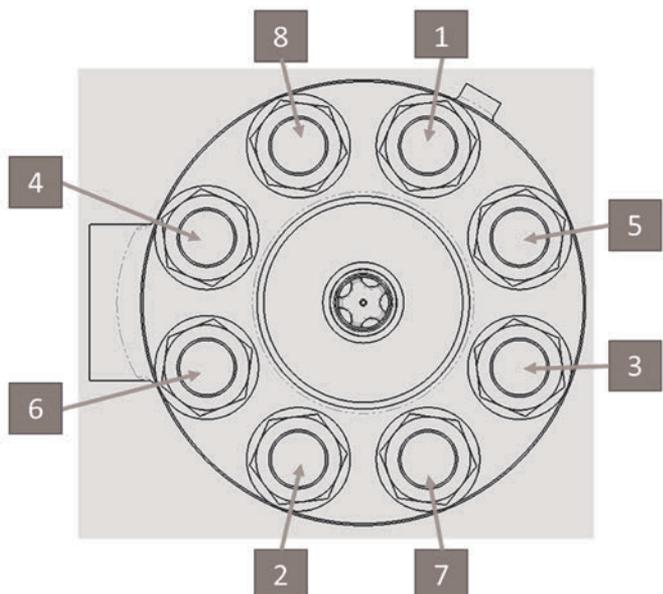

Figure 1 - Torque Sequence Single Bolting Circle 8 Bolts
1. Tighten the Body Nuts (B014) in the sequence indicated by the Figure 1 or 2 or 3 based on quantity, and torque them in successive, uniform, and progressive levels using a calibrated torque wrench. During torquing, ensure that the Lower Flange (B010) face stays parallel to the Valve Body (B001) face. Torque to the maximum values in Table 1 for ASME Class 2500 or Table 2 for ASME Class 600. When the final torque values are achieved, confirm that the Lower Flange (B010) face is contacting the Valve Body (B001) face.